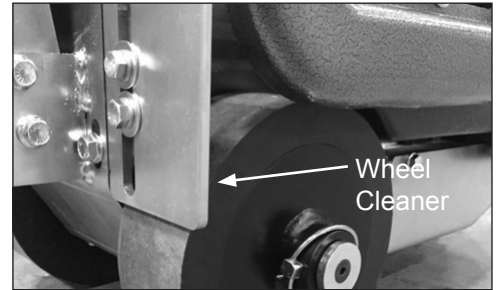

FIG. 13
1. Loosen wheel cleaner with wrench (Figure 13).